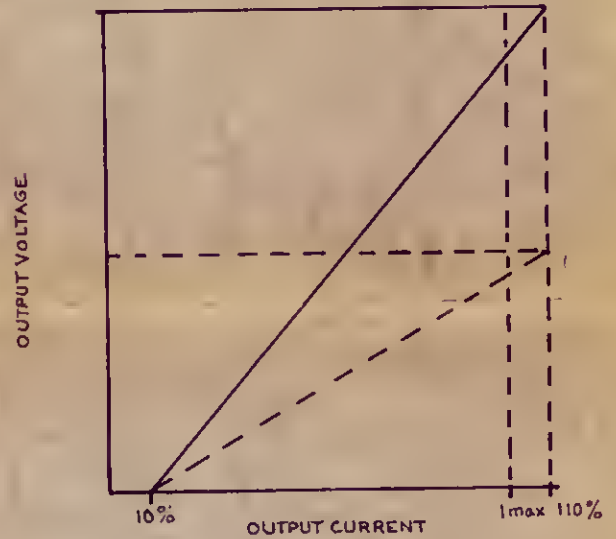

Fig 5. Output Protection.
Typical output voltage/current curves are shown in fig. 5. The position of the current limit once set will remain typically within 5% of the setting over the temperature range  $0-50^{\circ}\text{C}$ .
*Parallel Operation.* Units which are set to approximately the same output voltage may be connected directly in parallel. By increasing load, the unit having the highest output voltage will carry the load until it current limits, thereafter the unit having the next highest voltage will supply the extra current until it limits, and so on. A typical output characteristic for a parallel combination of three units is shown on Fig. 5. The characteristic shows a series of descending steps in output voltage at the current limit points of individual units, the amplitude of the step depends on how closely the output voltages have been set and it may not be possible to adjust this to better than  $50\text{mV}$ .